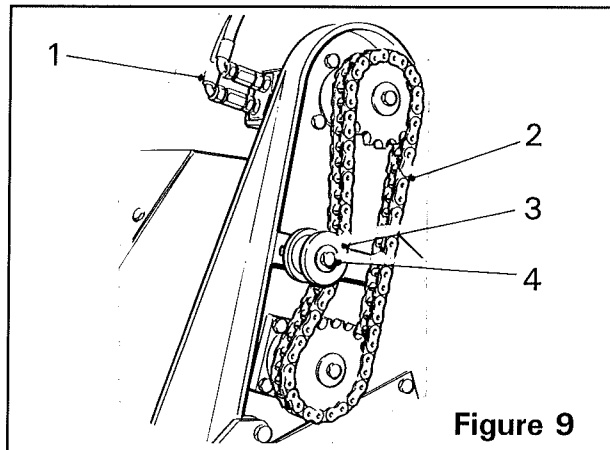
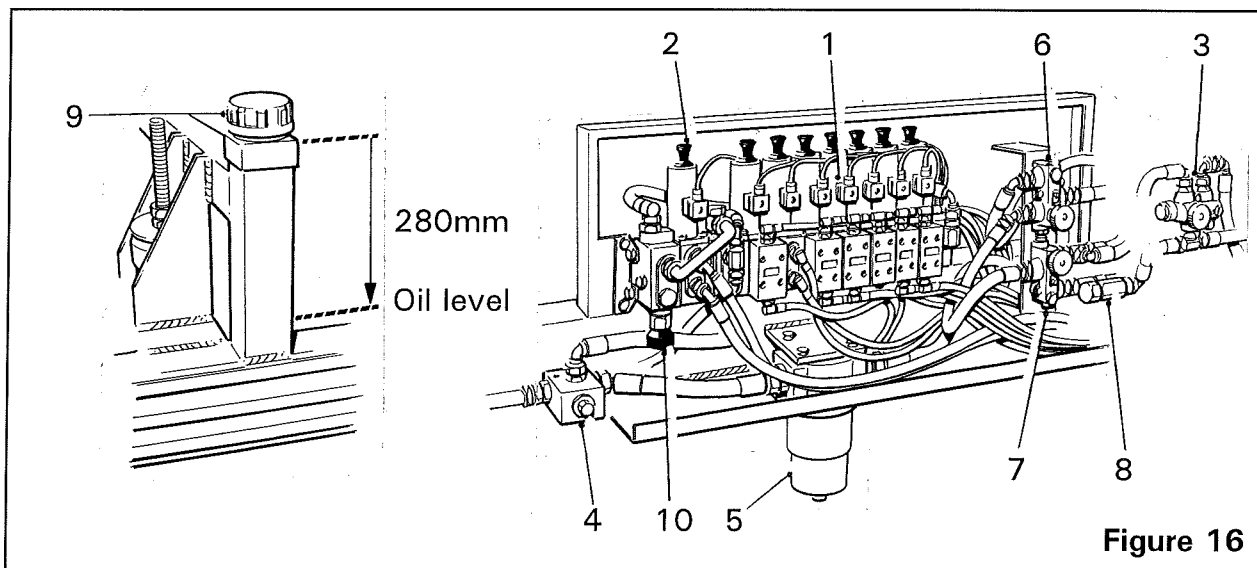
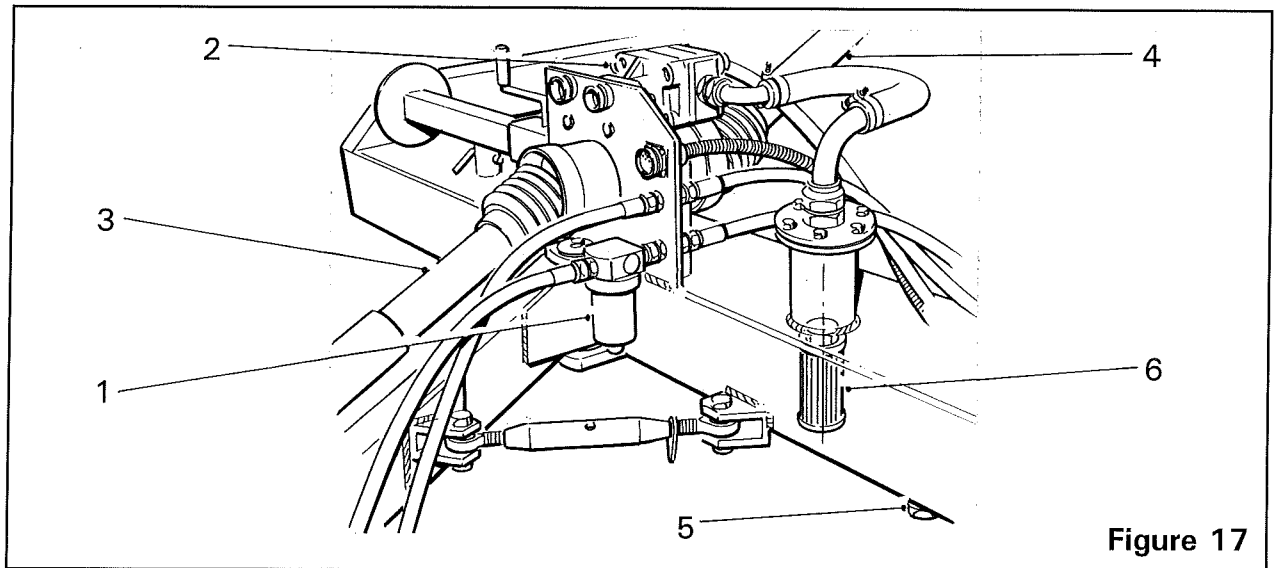

Figure 9
Figure 16
Figure 17
To adjust the rotor speed, turn the valve control knob (item 7, figure 16). The higher the number, the faster the rotor will turn. By turning the dial below '1', the rotor can be stopped.
The clod breaking rotor is driven by a hydraulic motor (*item 1, figure 9*). A check valve (*item 8, figure 16*) is fitted to the hydraulic system which allows the rotor to gradually slow down when the power has been switched off.
The check valve (item 8, figure 16) is an important safety feature and must remain fitted and operable at all times.
The rotor unit drive chain (*item 2, figure 9*) is tensioned by a roller (*item 3, figure 9*). To adjust the chain, loosen the securing bolt (*item 4, figure 9*) and slide the roller to achieve the correct tension. Once achieved, retighten the securing bolt ensuring that the roller is still able to turn.
The 2nd stage web is shaken by an agitator which assists in sieving the soil through the web. To increase/decrease the agitator speed, turn the valve control knob (*item 6, figure 16*). The higher the number, the faster the agitator will turn. By turning the dial below '1', the agitator can be stopped.
The hydraulically driven 3rd stage provides another area for the soil to be separated. The 3rd stage web is available in 28mm 36mm and 42mm pitches. To increase/decrease the speed of the web, turn the valve control knob (*item 3, figure 16*). The higher the number, the faster the web will travel.
The cross conveyor web is driven by two hydraulic motors. To alter the direction of discharge, operate the control box switch marked 'Cross Conveyor Drives'. To increase/decrease the speed of the web, turn the valve bank control knob (*item 10, figure 16*). The higher the number, the faster the web will travel.
Control for the major functions of the Standen Spectra are provided electrically by the switches mounted on the in-cab control box. The switches operate the solenoid valves on the valve bank (*item 1, figure 16*). The solenoid valves can be manually activated by operating the valve knobs (*item 2, figure 16*).
The hydraulic oil from the tractor operates the hydraulic rams, 3rd stage motor and cross conveyor motors. The system requires a constant flow of 45 litre/min (10 gal/min). From the tractor, the oil passes through the pressure filter (*item 1, figure 17*) and then to the variable flow divider (*item 3, figure 16*) which powers the 3rd stage motor. The bypass flow from the flow divider is then recombined with the return flow from the 3rd stage motor and pressurises the valve bank (*item 1, figure 16*) which operates the cross conveyor motors and hydraulic rams.
The Spectra hydraulic pump (*item 2, figure 17*) supplies pressurised oil to drive the clod breaking rotor and 2nd stage agitator motor. The pump produces a flow rate of 63 litre/min (14 gal/min) at 540rpm PTO speed. The oil reservoir for the system is integral within the front and left hand frame members of the chassis. The pressurised oil from the pump passes through the relief valve (*item 4, figure 16*) which is designed to protect the hydraulic system. From the relief valve, the oil passes through the pressure filter (*item 5, figure 16*) and then travels to the 2nd stage agitator variable flow divider (*item 6, figure 16*). The bypass flow from the flow divider is recombined with the return flow from the agitator motor and travels to the clod breaking rotor variable flow divider (*item 7, figure 16*). The check valve (*item 8, figure 16*) linked into the motor pressure line is designed to allow the rotor to gradually slow down after the power has been switched off.
The pressure relief valve (item 4, figure 16) is fitted to protect the hydraulic system should any major blockage occur. It is an essential safety feature preset at the factory and should never be tampered with.
The drive is transferred from the tractor to the machine by the PTO shaft (*item 3, figure 17*). The PTO shaft drives the gearbox which in turn drives the hydraulic pump (*item 2, figure 17*). The PTO shaft should be checked occasionally to ensure that the inner and outer tubes can slide freely. Binding of the tubes may cause premature wear of the gearbox input bearings.
From the gearbox, the drive is taken via a universal coupling (*item 4, figure 17*) to the second gearbox. The second gearbox transmits the drive to both the 1st and 2nd stages of the machine. The gearbox oil levels should be checked occasionally and topped up with EP 90 gear oil as necessary.
The pressure line filter (*item 1, figure 17*) is fitted with an indicator. When the indicator is pointing to the red segment, the filter element should be replaced. To replace the element, unscrew it from the bottom of the filter assembly.
The pressure filter (*item 5, figure 16*) should be replaced after the first 50 hours running time and then every 500 hours or annually thereafter.
Check the reservoir oil level regularly by removing the filler/breather cap (*item 9, figure 16*) and top up with Nuto 46 Centistroke Oil to the dimension shown (*see figure 16*).
Every 500 hours or annually, drain the hydraulic reservoir and clean the magnetic drain plug (*item 5, figure 17*). Remove and clean the suction strainer (*item 6, figure 17*). Refill the hydraulic reservoir with Nuto 46 Centistroke Oil (160 litres/35 gallons).
Pressure filter (item 5, figure 16)	Replace filter element